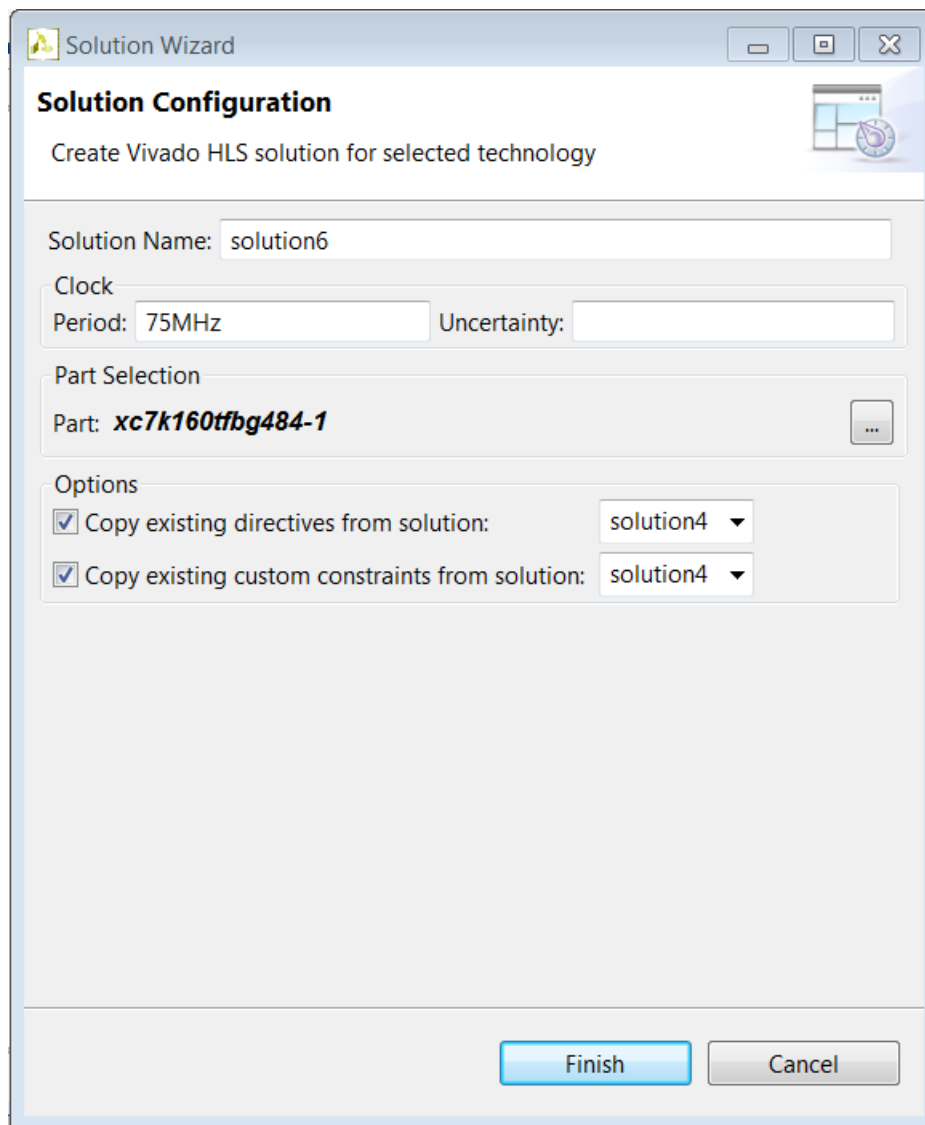

Figure 158: New Solution Based on Solution4 Directives
2. Select **solution4** from both the drop down menus in the **Options** section. The Solution Wizard appears as shown in **Figure 158**.